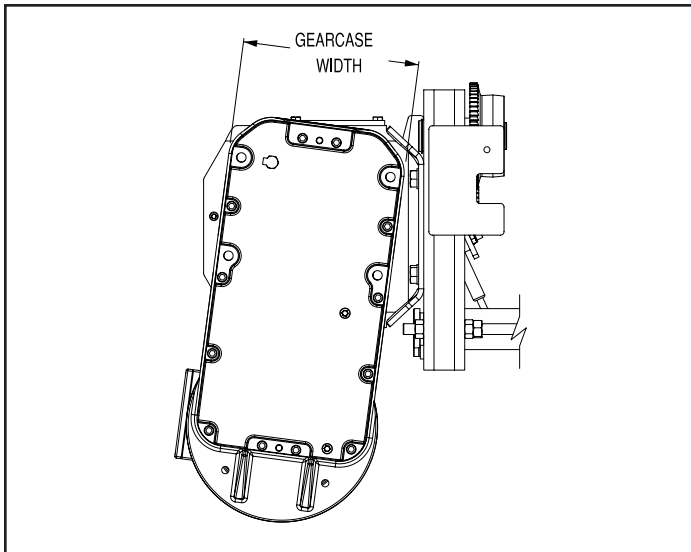

Figure 4-2. Gearcase Width Illustration
- e) Refill through filler hole to proper level (bottom of oil level plug hole) using GCOH (Paragraph 4-7). The amount of oil required depends on the overall size of the gearcase; three sizes are used for "Global King" hoists. To determine size and amount of oil to add, measure the width of hoist gearcase (see Figure 4-2). The "B" Frame measures 9-3/4" wide and requires approximately 5 quarts of oil. The "C" Frame measures 12-1/2" and requires approximately 11 quarts of oil. The "D" Frame measures 17" and requires approximately 12 quarts of oil.